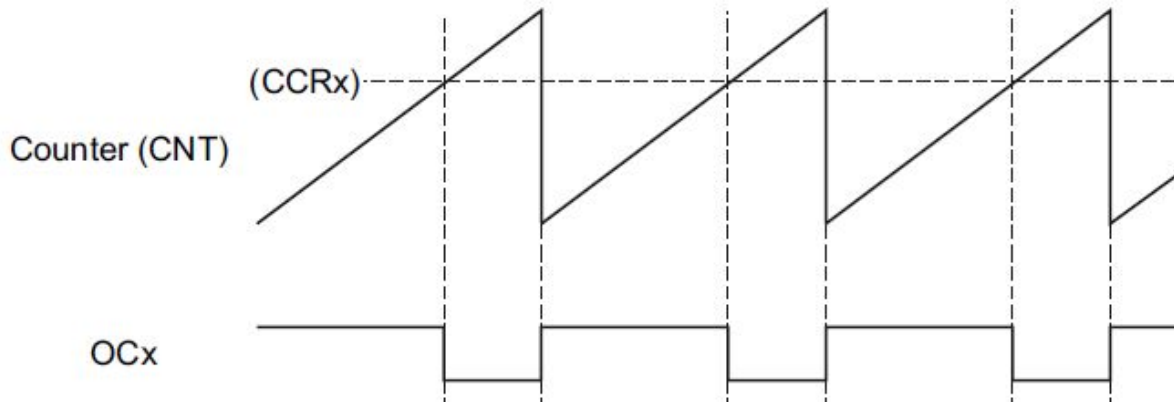

Figure 11-10: PWM Mode
The OCxM bits can be set as mode 1 (110) or mode 2 (111) for PWM. The difference between these two options is the way the output starts as active or inactive state. For the PWM, the frequency is these two options is the way the output starts as active or inactive state. For the PWM, the frequency is bit mode or 32-bit timers) register. See Figure 11-10.